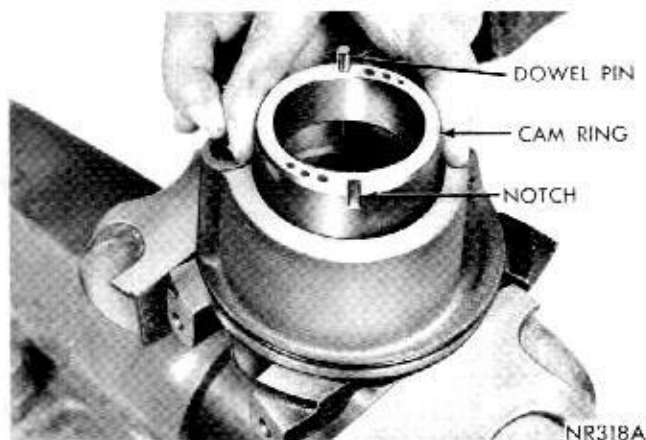

Fig. 27—Installing Cam Ring
(7) Place dowel pin in cam ring and position cam ring inside pump bore. Notch on cam ring must be up or away from pulley end of pump (Fig. 27). If cam ring has two notches, one machined and one cast, install with machined notch up. Machined notch has sharp corners and cast notch rounded corners.